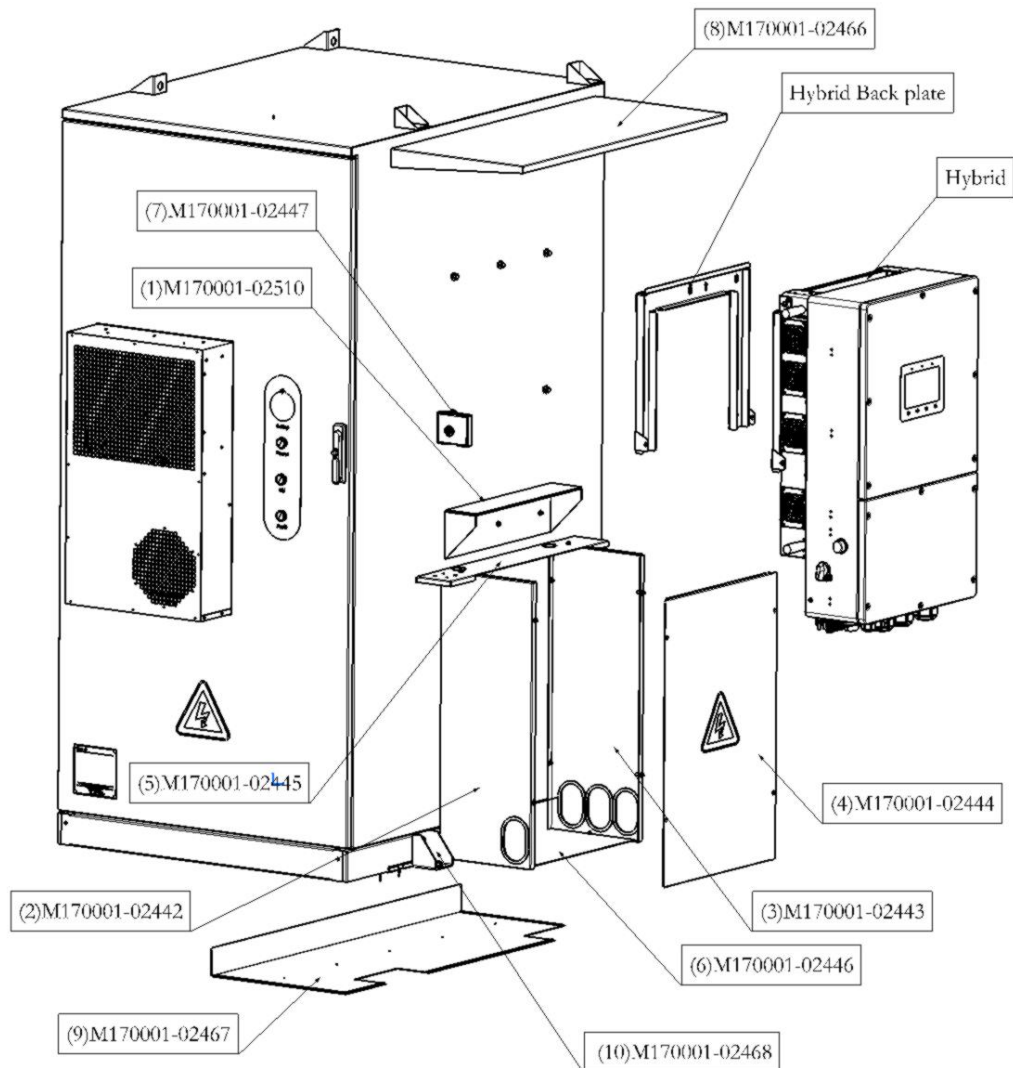

Figure 5-7 Installation diagram of the hybrid inverter and battery cabinet
2. The label of the cable is: L061101-02097 (BAT1), L061101-02098 (BAT2). Connect according to the connection points shown in Figure 5-7. When wiring, pay attention to the polarity definition. The following is the interface definition: